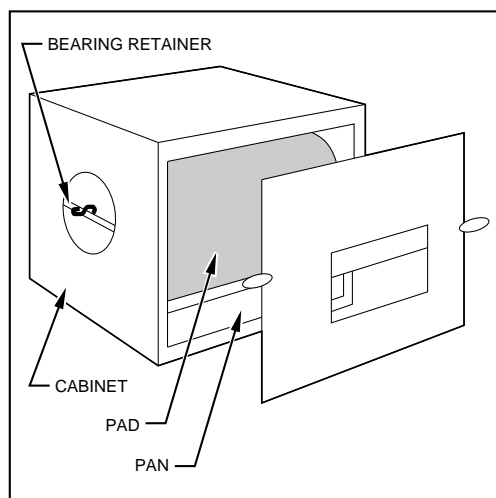

Fig. 10 — Model HUMCCWTR2019-A--
- On a Model HUMCCWTR unit, look through the window on front of the unit to see that the evaporator pad is rotating and water is flowing. (See Fig. 10.)
- Remove and inspect the evaporator pad assembly. Lift the bearing from its retainer. (See Fig. 10.) Pull the assembly away from the motor to disengage the assembly shaft from the motor coupling. Remove assembly through the access opening.